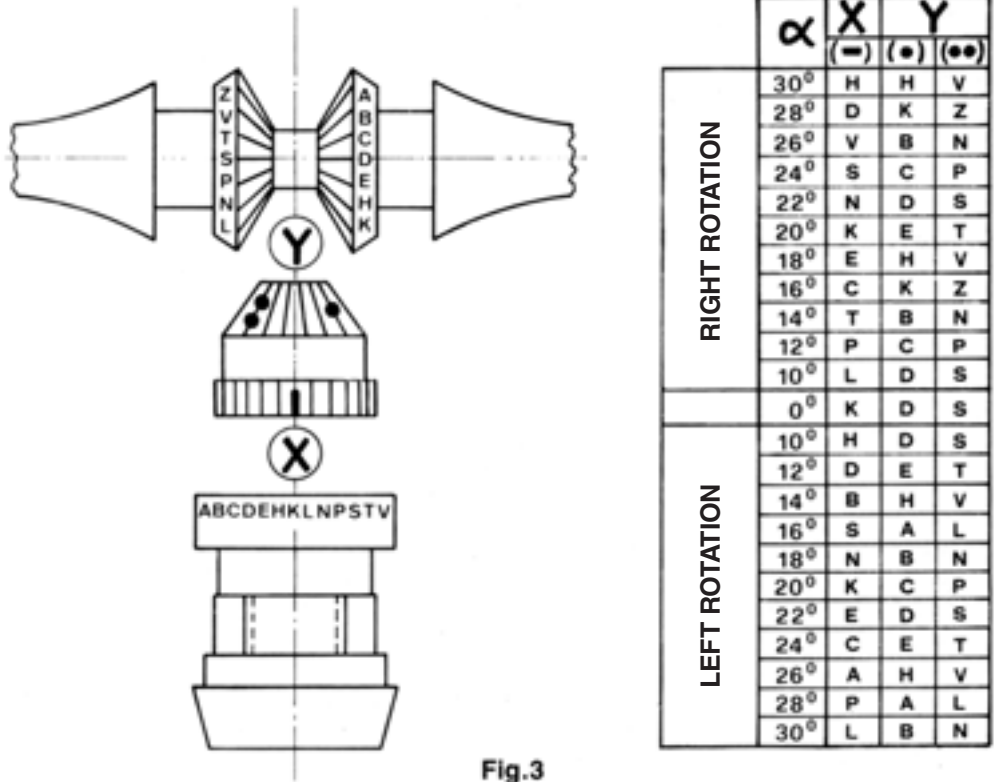

Fig.3
- C) On the bottom of the central gear [6] there is a groove on the bottom of one of the teeth, this represents the “X” on the chart in figure 3. Place the tooth with the groove into the corresponding lettered gear on the hub [1].
- D) Next engage the gear on the blades with those of the central cone gear as shown in figure 3. When engaging the gears make sure that the correct letters on the blades are inserted into the corresponding “●” and “●●” in the depth of the teeth of the central cone gear.